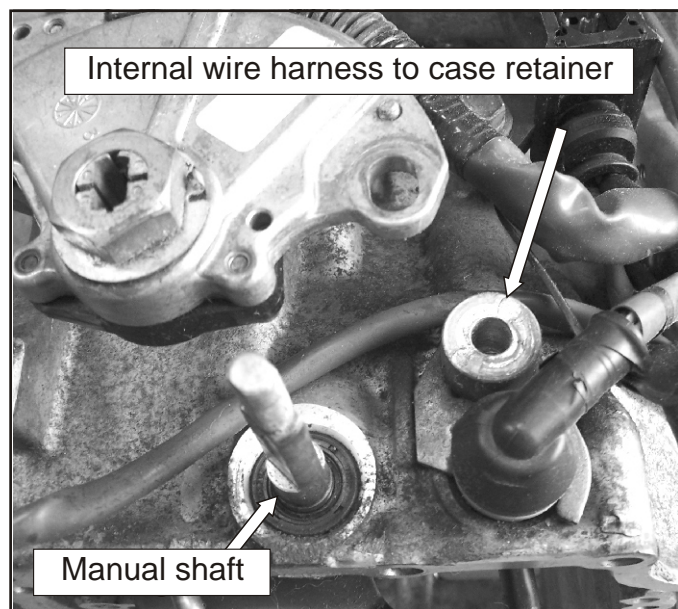

Figure 91
40. Lift the transmission range switch up off of the manual shaft and remove the internal wire harness to case connector retainer, as shown in Figure 91. Once the retainer is removed push the internal wire harness thru the case and set the entire assembly to the side.